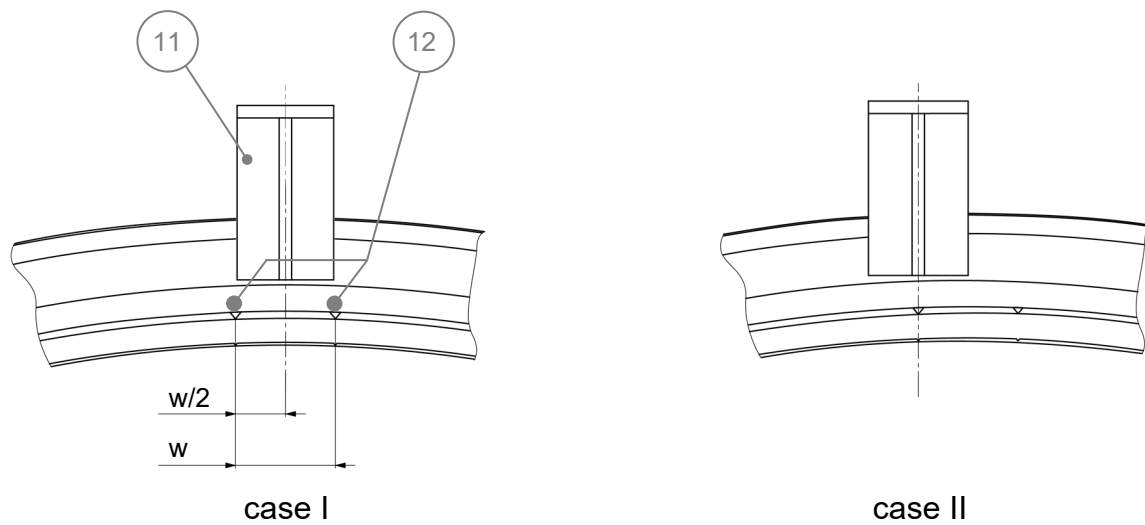

Fig. 8: Wear indicator
Please note that if the coupling is delivered with the hub not finish-bored, the wear markings (item 12) must be set after the hub has been bored, Fig. 8 in section 5.2.
- The condition of the driving surfaces (item 10) and their contact with the mating surfaces about damage and uniform contact.
- The **wear of the coupling teeth**: The position of the pointer (item 11) between the wear markings (item 12) on the hub indicates the condition of the tooth flank wear, Fig. 8. In new condition (case I) the wear indicator is in the middle. When the wear limit is reached (case II), the entire coupling must be replaced.